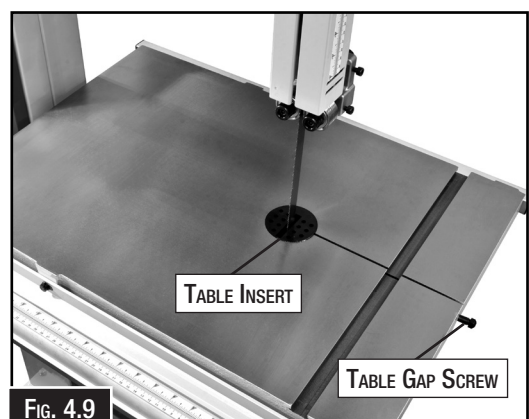

FIG. 4.9
7. Install table insert. Then, install table gap screw assembly. (Fig. 4.9)